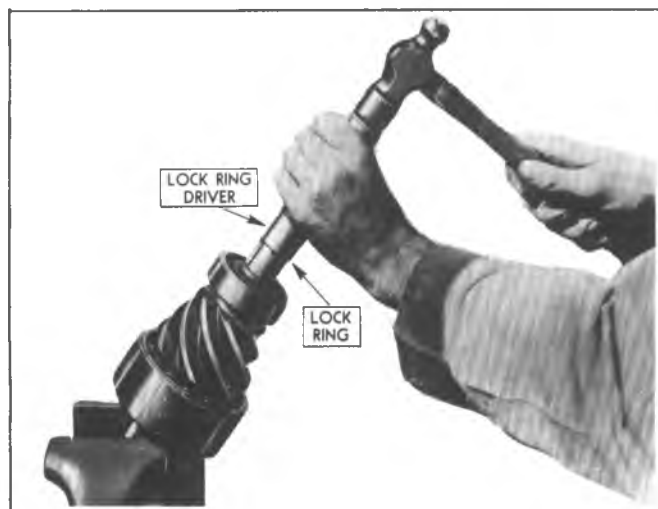

Fig. 5G-Pinion Rear Bearing Lock Ring Installation
3. Install the pinion rear bearing assembly on pinion shaft making sure that chamfered side of inner race seats against shoulder on pinion shaft. Then install pinion bearing lock ring using Tool J-1364 as shown in figure 5G.